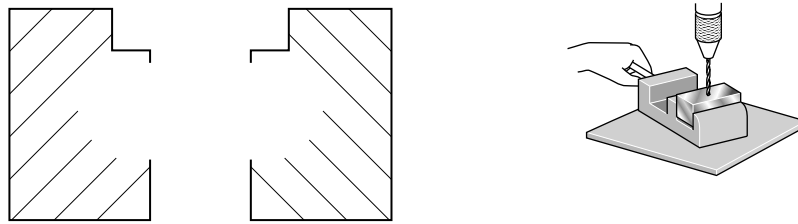

Fig. 7
- 8 Fig. 7 shows an incomplete drawing of the side view of the jaws of a machine vice used to hold metal while it is drilled.